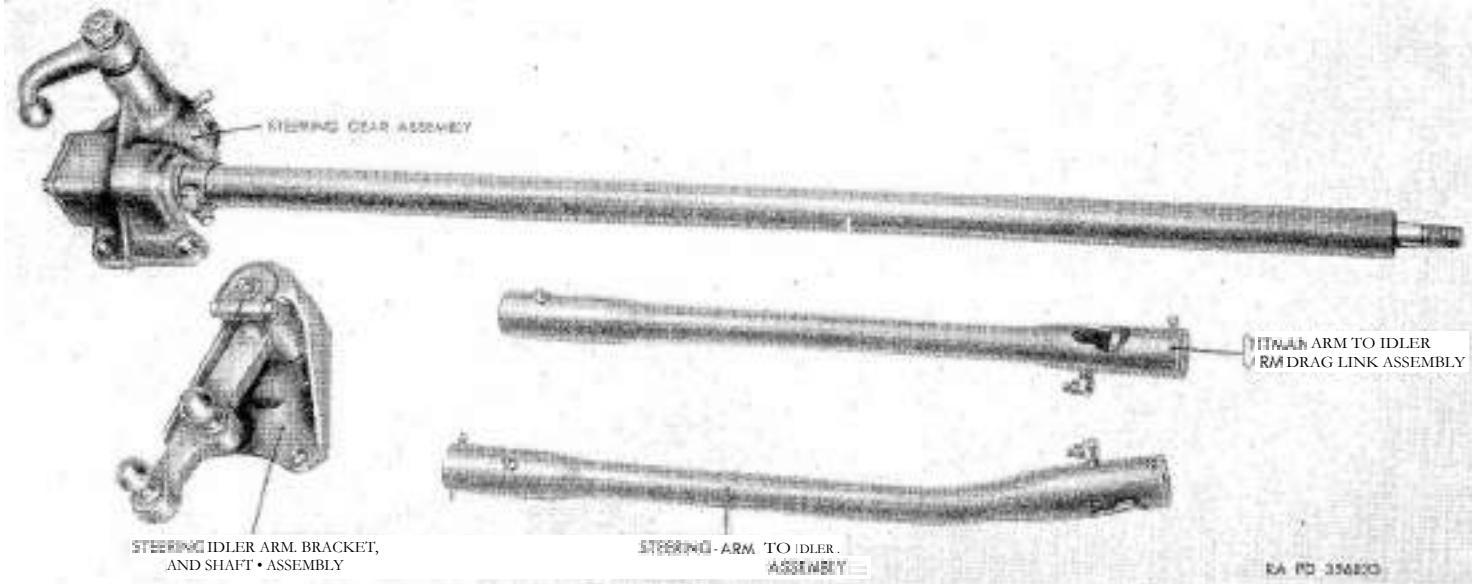

FIGURE 159 *Steering system assemblies*
a. *Steering Gear Assembly* (fig. 159). The steering gear is a worm and sector type, assembled in a cast iron housing, which supports the column shaft with worm and pitman arm shaft with integral sector. Tapered, adjustable roller bearings support the worm. Pitman arm operates in bushing-type bearings. Adjustments are provided for controlling the backlash between worm and sector. Adjustment of the roller bearings is accomplished by the use of shims.
b. *Steering Idler Arm, Bracket, and Shaft Assembly* (fig. 159). Proper steering geometry is accomplished by the use of two drag link assemblies, which require a steering idler arm to complete the connection between steering gear and front axle. The idler arm is equipped with a bushing-type bearing and operates on a steel shaft supported in a bracket, which is attached to the frame left side rail.
c. *Drag Link Assemblies* (fig. 159). The drag links are tubular assemblies with adjustable ends. One drag link provides a connection between pitman arm on the steering gear and the steering idler arm ; the other drag link connects idler arm to the steering arm on front axle.
a. General. The information in this section is based on the assumption that the steering gear assembly (fig. 159) is removed from the vehicle.